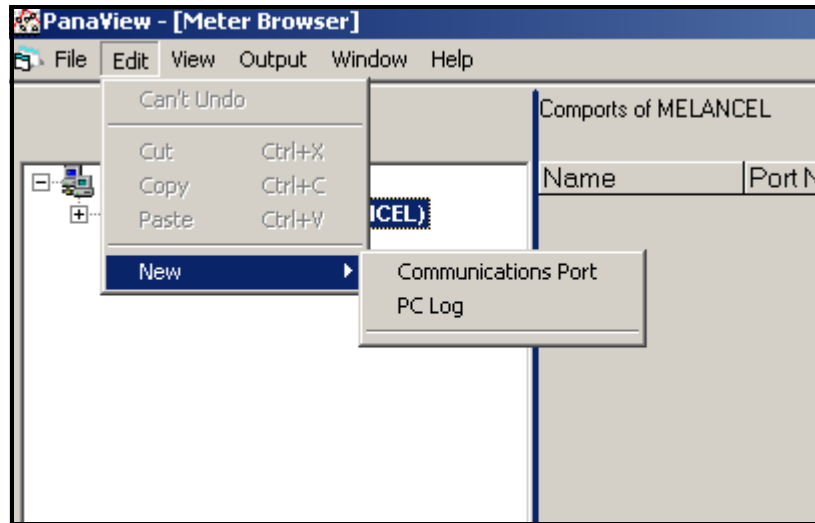

Figure 18: The Edit Menu
3. Click on the *"New"* menu option to select it, and a submenu opens with two choices on it (see Figure 18 below).